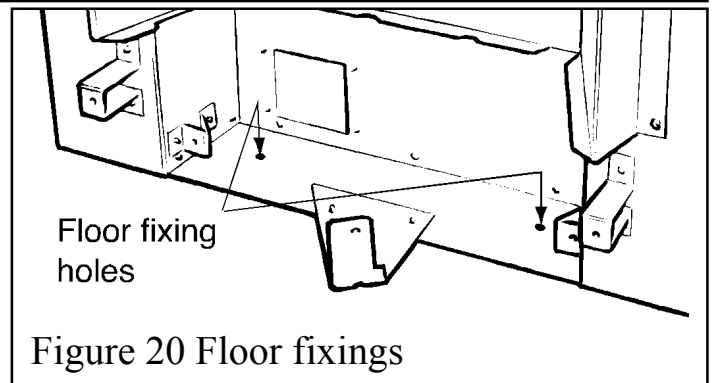

Figure 20 Floor fixings
9. Drill a hole into the fireplace floor through each of the two holes in the base of the convection box using a no.12 masonry drill. See figure 20.